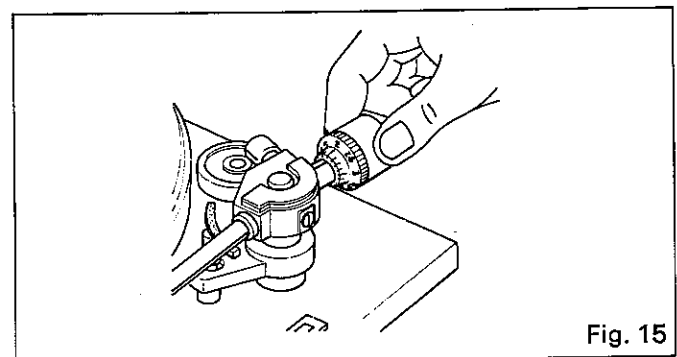

Fig. 15
3. While holding the main weight, set the tracking force indicator ring to the zero position. This is the zero balance position with the tone arm parallel to the turntable. Rotate the main weight and read the tracking force on the tracking force indicator ring. Set the tracking force in accordance with the cartridge specifications. (Fig. 15)